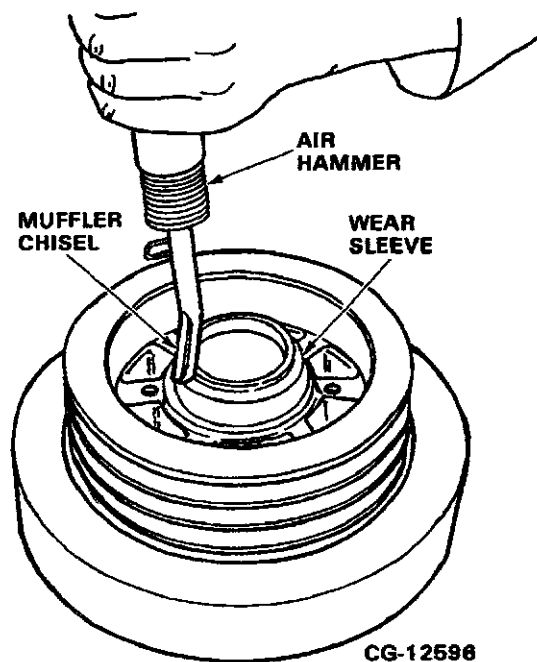

Figure 7.48. Remove Wear Sleeve from Damper
- a. Split the wear sleeve with a muffler chisel to remove. Be careful not to damage the damper. Refer to Figure 7.48. Discard sleeve.